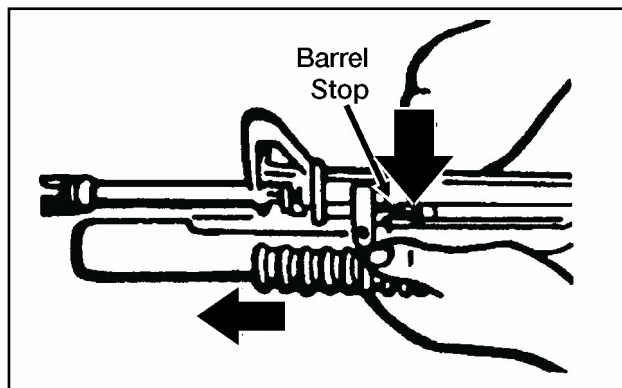

Figure 071-311-2125-7. Installing the M203 barrel
- a. Press the barrel stop. Slide the barrel into the receiver (figure 071-311-2125-7).
- b. Move the barrel rearward to lock (figure 071-311-2125-8).